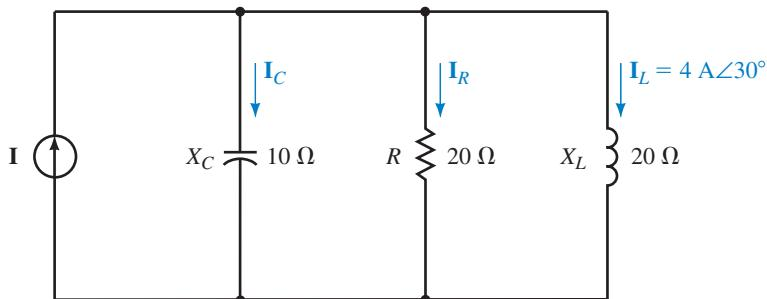

FIGURE 18-110
42. Given that $\mathbf{I}_L = 4 \text{ A} \angle 30^\circ$ in the circuit of Figure 18-110, find the currents \mathbf{I} , \mathbf{I}_C , and \mathbf{I}_R . Verify that Kirchhoff's current law applies for this circuit.